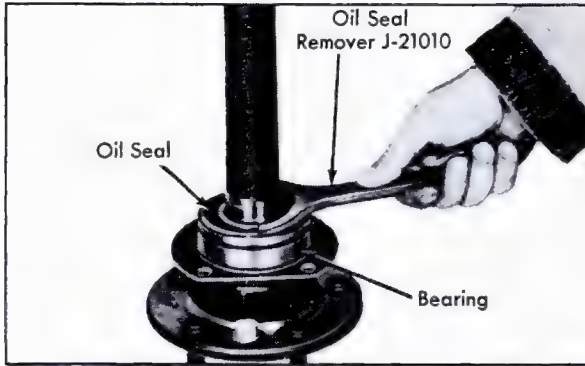

Fig. 4-31 Removing Oil Seal From Bearing
4. Remove oil seal from bearing using Oil Seal Remover, J-21010, Fig. 4-31. Hook slotted flange of remover tool under rolled edge of seal case and pry up on tool handle. Then slide seal off axle shaft.